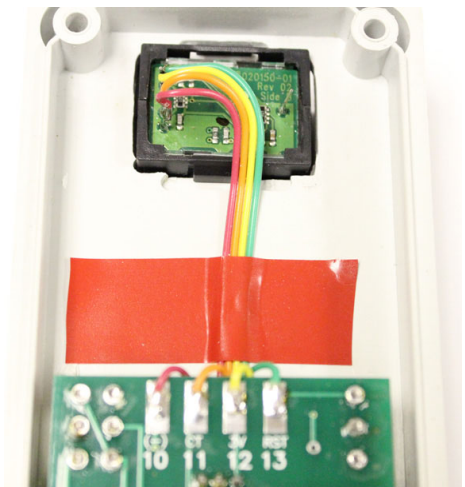

Fig 8
10) Tuck the excess ribbon wire between the circuit board and the cover. Place a piece of tape over the ribbon as shown (fig8) to secure it.